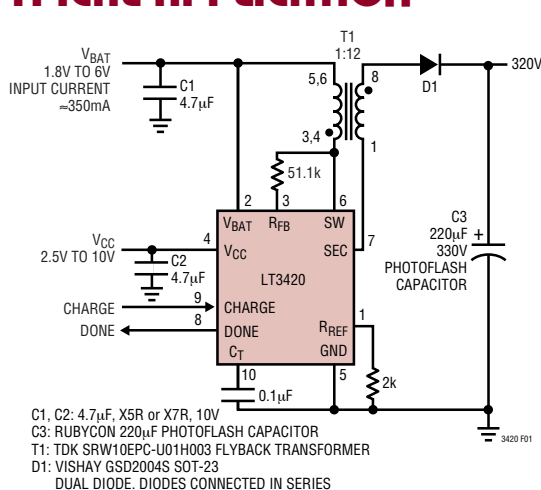

Figure 1. High Charge Rate LT3420 Photoflash Circuit
**Efficiency of Figure 1 Circuit, LT3420**